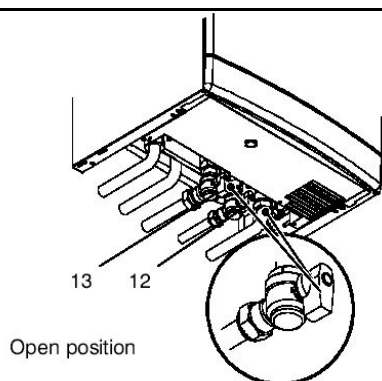

Fig. 6.44
2. Open the gas cock 1.3 (Fig. 6.44) on the appliance and check the gas connector on the appliance for leaks.
4. Open the C.h. circuit filling valve 1.3 in Fig. 6.44 and fill the C.h. circuit (see section 2.2 on page 12).